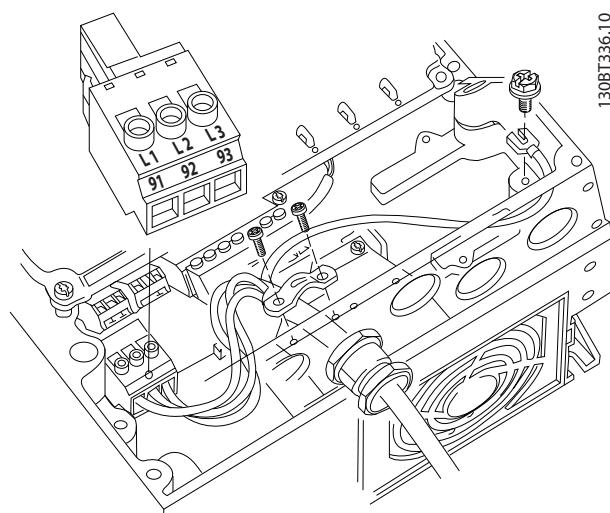

Figure 4.10 Connecting to AC Line Power
1. Connect 3-phase AC input power wiring to terminals L1, L2, and L3 (see Figure 4.10).